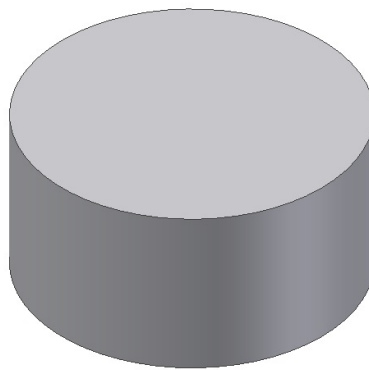

Figure 8-154 Base feature of the Nut
- Create the base feature, refer to Figure 8-154.
1. Create the base feature (cylinder) of the Nut on the XY plane, as shown in Figure 8-154. The diameter of the cylinder is 20 mm.